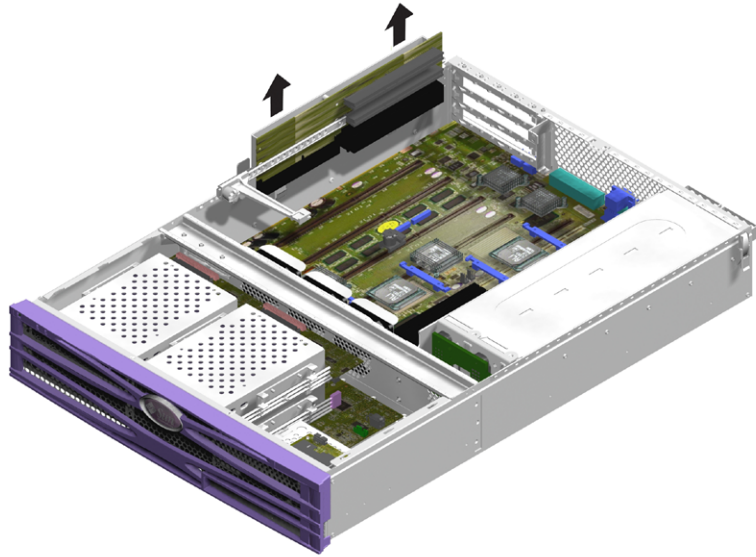

FIGURE 1-27 Removing the PCI Riser Card Assembly
5. **Pull riser card assembly vertically to detach it from the system board** (FIGURE 1-27).